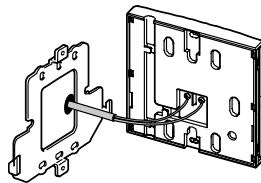
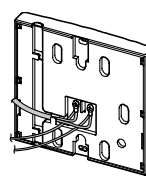

Fig. 3
Fig. 4
6. Connect the cable to the water controller as shown in Fig 3. At this point cables from other controllers (if fitted) may also be connected to the screw terminals of the Kitchen water controller (Fig. 4) eliminating the need for multiple cable runs directly to the water heater. Water controllers are not polarity sensitive. Feed any excess cable lengths into the wall cavity to avoid the pinching of cables between the wall and the controller.